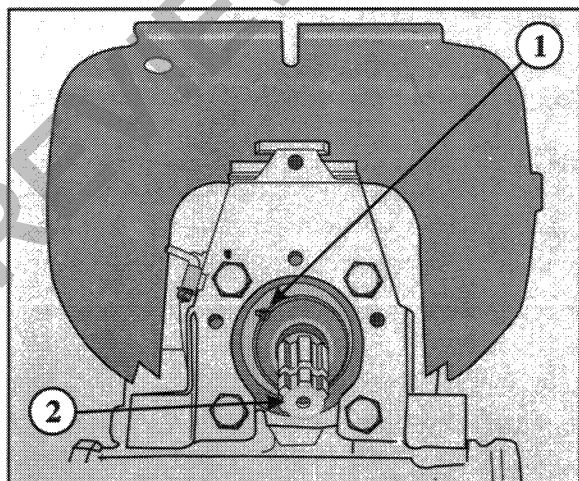

Fig. 16. P.T.O. shaft Replacement
Remove the circlip (1) Figure 16, and pull the shaft (2) from the housing. Clean the replacement shaft thoroughly, ensuring that the lubrication hole in the side of the shaft is free of dirt. Carefully insert the shaft and replace the circlip.